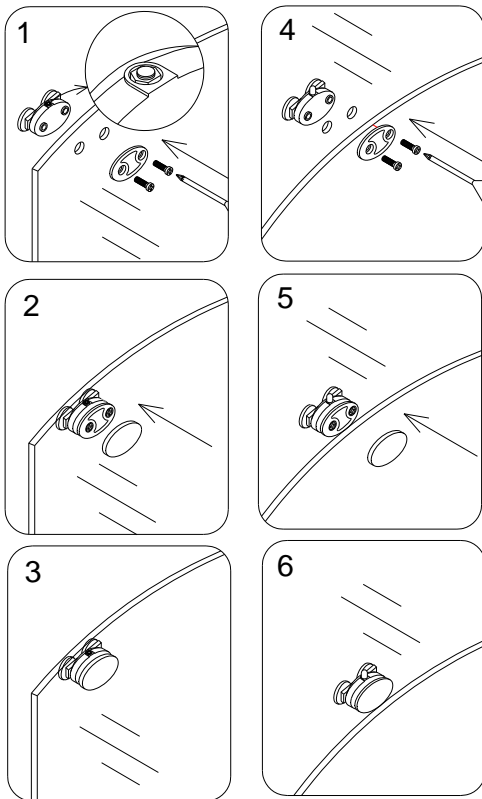
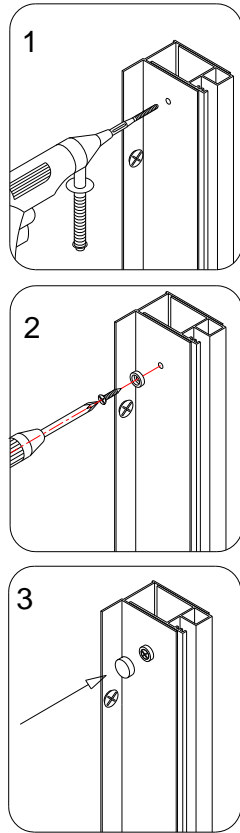

Fig 7
Fig 9
6. Your unit can be shipped to you with the **Wheel assemblies (17)** installed on the doors. If not, please refer to diagram (fig 9) how to install it. Attach the top and bottom wheels to the glass doors. The wheel that goes on the top has an adjustable screw and nut to adjust the door level. Note that the lock nut of upper wheel should face up. The bottom wheel has a press button to fix the wheel on the bottom guide rail; that button should face up. See Fig 7 for details.
8. Secure the wall profile and glass profile with **Round head screws ST4.2x10 (12)**. Cover the screw location with **Decorative cover (14)**. See Fig 9 for details.